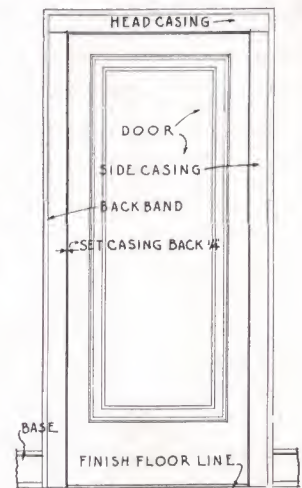

FIGURE 95
- (g) The doors are cased in a similar manner, except that there is no stool or apron and the back band runs down to the finish floor (see Figure 95). No base blocks are needed with "Craftsman" trim. Inasmuch as the finish floor is not put in until after all interior trim is on, use a small piece of finish flooring to set under the bottom ends of door side casings to get the correct length of the casings. Do not nail this piece of flooring down, simply use it as a measure of the thickness of the flooring. The door casings must be set back $\frac{1}{4}$ of an inch from